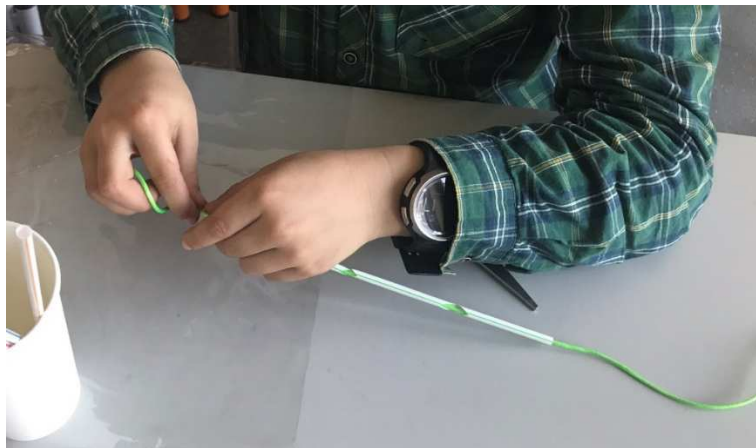

Figure 12: A Thread pushed through a straw
7. Push each thread through one of the straws (see Figure 12).